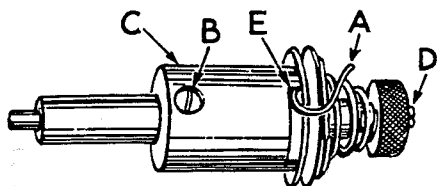
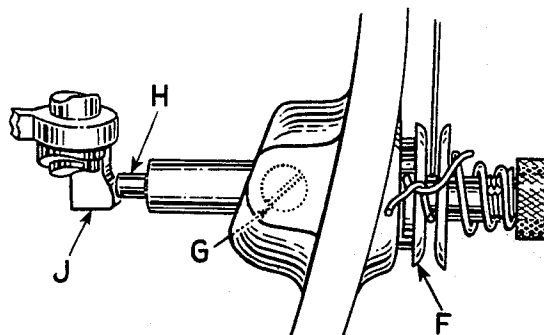
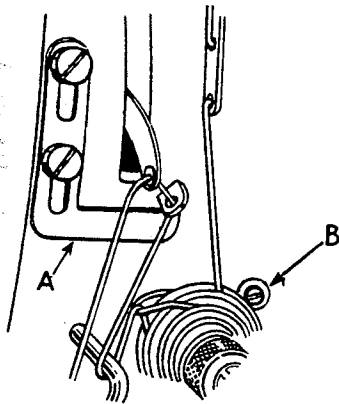

Fig. 20
Fig. 21
Fig. 22
Test check spring tension (A, Fig. 20).
There should be enough tension to insure a good returning snap when spring is depressed and released. Should it require adjusting, loosen set screw in the head on right side of tension post (G, Fig. 21) and remove tension post assembly. Partially loosen tension post set screw (B, Fig. 20) in tension post socket (C). Holding the socket in the left hand turn the tension post (D) counterclockwise with the right hand until the check spring moves away from the upper stop (E) and has no tension (E). Then proceed further in the same direction until the spring again touches the upper stop (E). When correctly set, the tension post set screw (B) should be drawn up snugly but not forcefully. Further adjustment of the check spring tension can be made by inserting a screw driver into the slotted end of the tension post (D) and turning in the required direction.
The frame take-up eyelet (A, Fig. 22) should be set at its lowest position.
The tension assembly should be located in bed from front to back, so that when the presser foot is raised to its highest position, the tension discs (F, Fig. 21) are opened just enough to allow the thread to pass through the discs freely.
To position the tension assembly, see that set screw in bed (G, Fig. 21) is loose and tension assembly adjusting screw (B, Fig. 22) is screwed down to the bed.
Lift the presser foot hand lifter to its highest position; with the left hand grasp the thread and pull it through the tensions, with the right hand push tension post deeper into the machine until release pin (H, Fig. 21) pressing against the presser bar connection (J) has opened the tension discs just enough to allow the thread to pull through freely. Re-tighten set screw (G), turn tension assembly adjusting screw (B, Fig. 22) counterclockwise until it contacts the flange of the tension post socket.